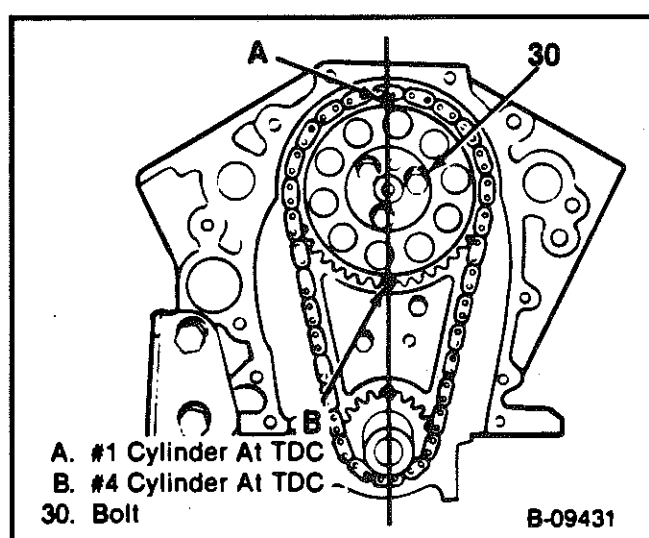

Figure 16 - Camshaft Timing
- Place number one piston at top dead center with the marks on the camshaft and crankshaft sprockets aligned (number four firing) (Figure 16).
**↔ Install or Connect (Figure 16)**